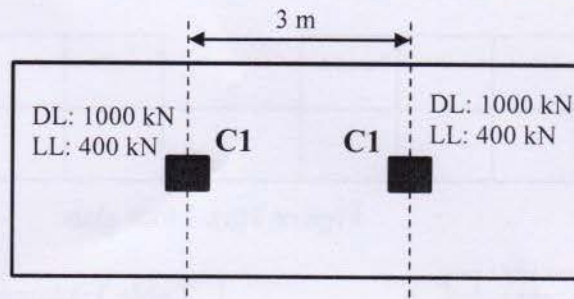

Figure 3. Layout plan of combined footing
- b. Two tied columns of **Question 2(a)** are supported by combined footing as shown in **Figure 3**. The bearing capacity of soil is 170 kN/m^2 . Apply the concept to design the footing for **long span only**. The depth (h) of footing and size of each column could be assumed as 500 mm and 500 mm x 50 mm respectively. Assume required data to design the footing. [15]